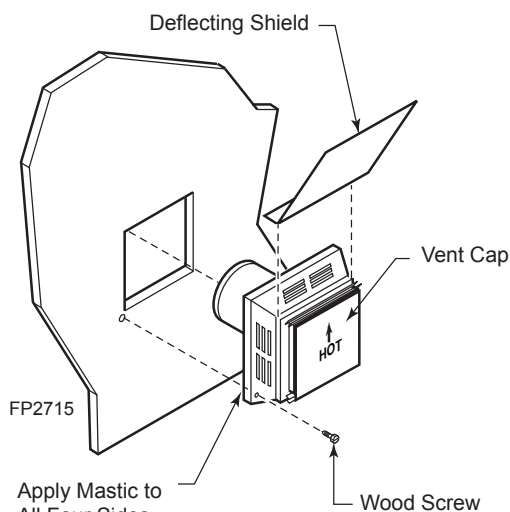

Figure 17 -
4. Apply a bead of non-hardening mastic around the outside edge of vent cap. Position the vent cap in the center of hole on the exterior wall with the word "UP" on the vent cap facing up. Insure proper clearance of 1" to combustibles is maintained. Attach the vent cap with four wood screws supplied. *Figure 17*